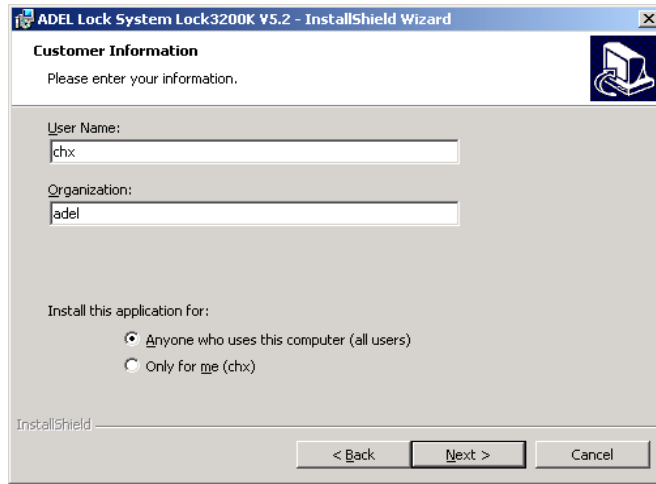

Figure 1-13
- 8) Figure 1-12 appears after decompressing is completed. Click **Next** to enter Figure 1-13.